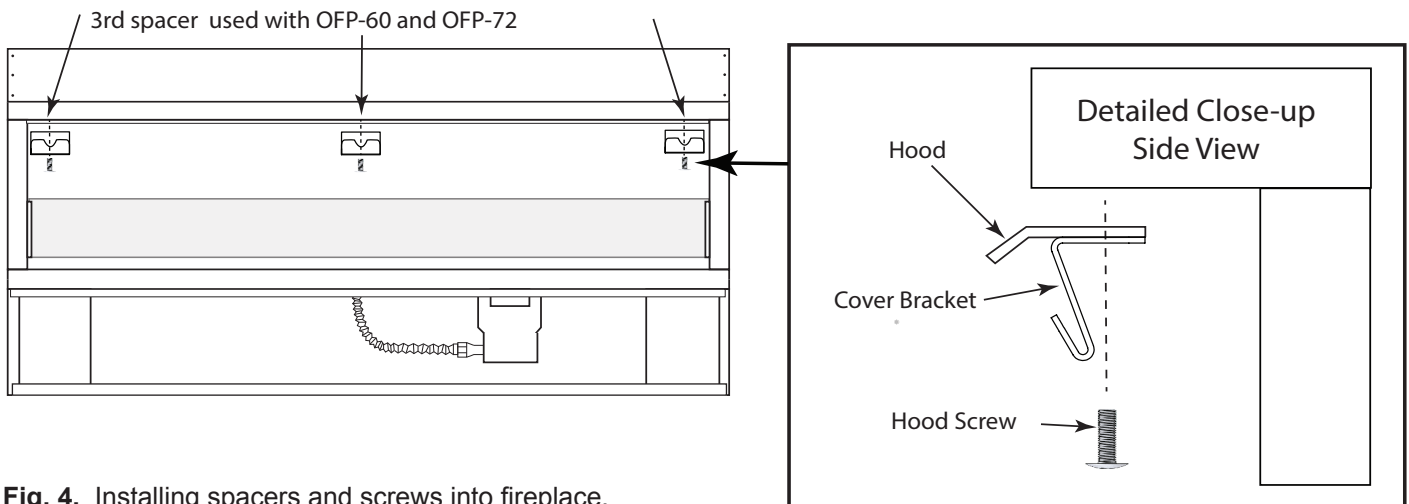

Fig. 4. Installing spacers and screws into fireplace.
Step 4: Install the brackets with the hood screws using a Phillips screwdriver. See Fig. 4.